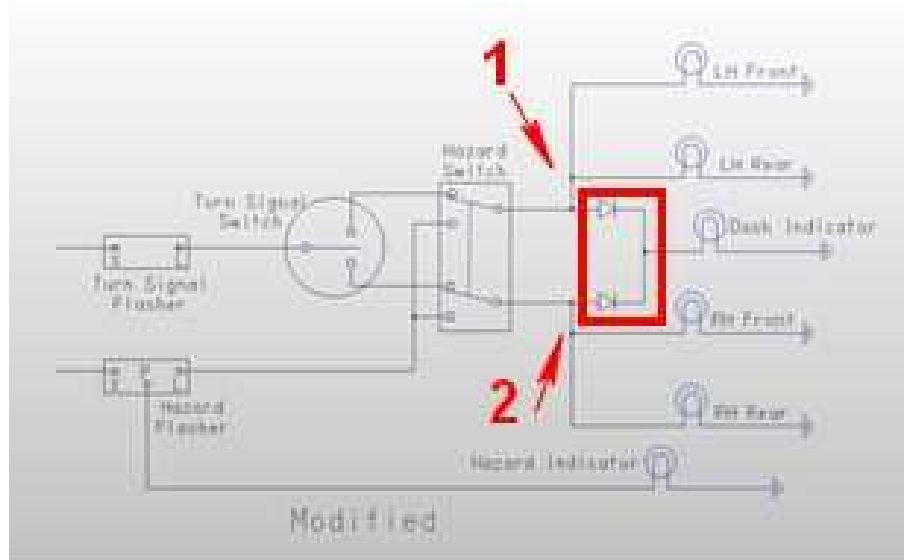

Figure 7
7. When complete the installation will have the electrical connection as shown in Fig 7.